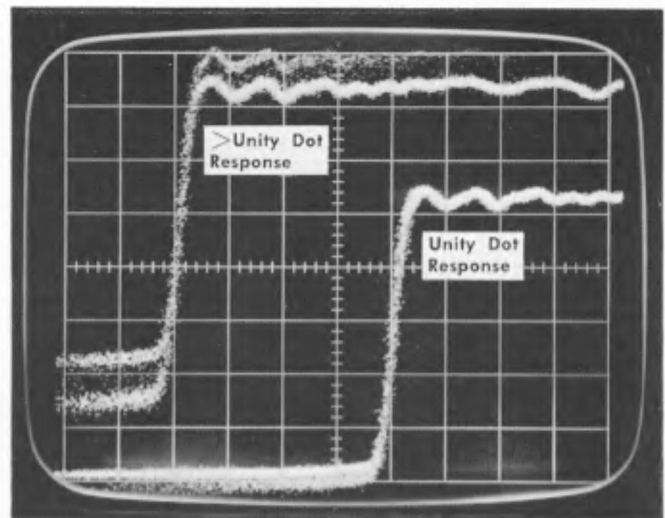

Fig. 5-9. Double exposure of Type S-2 Dot Response. (Type 3T2 operating at Before Trigger.)
g. Adjust the Type S-2 AVALANCHE VOLTS control and then the SNAP-OFF CURRENT control for unity dot response. (See Fig. 5-9.) The procedure is to set the dot response to unity (at the pulse top) with the AVALANCHE VOLTS control to maximize loop gain. If this causes the dot response to be greater than unity, reduce it with the AVALANCHE VOLTS control and again maximize loop gain with the SNAP-OFF CURRENT control.